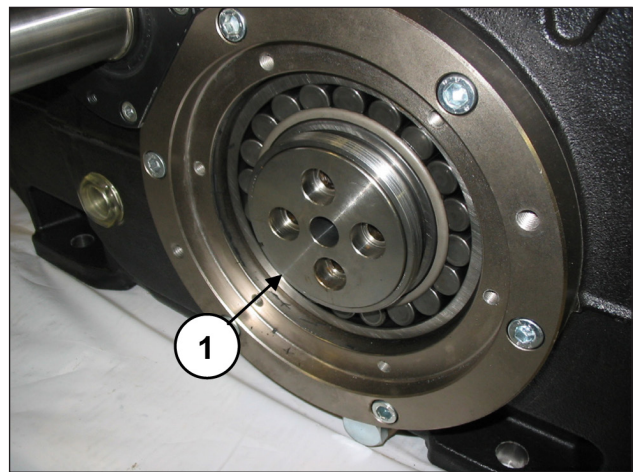

Fig. 14
The bush locking flanges must be left in position (pos. ①, Fig. 14).